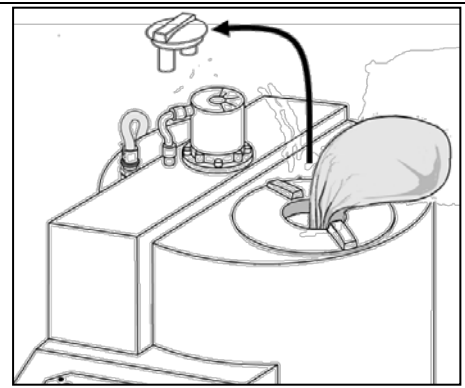

Figure 7
- Remove the GranuFlo I Dissolution Unit Small Access Lid and slowly add granules as seen in Figure 7. This minimizes the amount of particulates discharged into air while adding granules to the tank. If clumping in dry acid product is present, then the larger access lid can be used to load the Tank, but ensure that the bags are slowly poured into the large access port to avoid splashing of water onto the outside of the GranuFlo I Dissolution Unit (See appendix A for further complete dry acid mixing information, page 43).